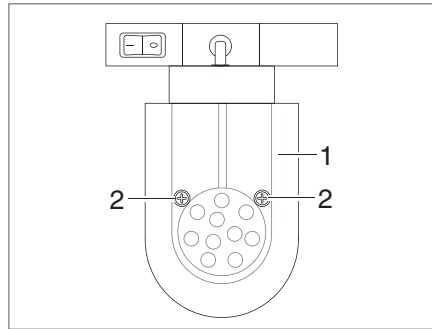

Fig. 368 LED spotlight (movable)
- Loosen the fixing screws (Fig. 368,2).
- Remove the lamp glass cover (Fig. 368,1) carefully.